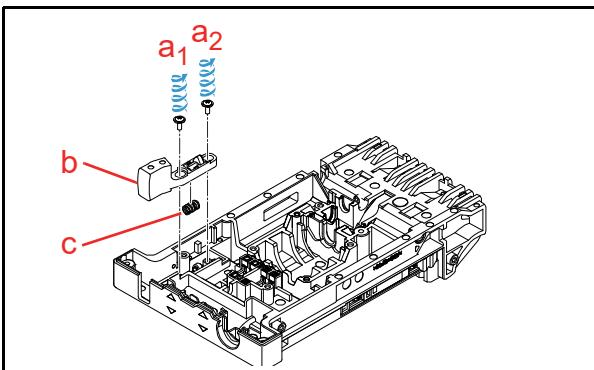

**Figure 4-38 TR Motor Harness Assy. Removal 2**
2. Remove the two (2) Screws (Figure 4-38 a1 & a2).
3. Remove the Detection Plate (Figure 4-38 b), the Motor Plate (Figure 4-38 c) and the Pinion Gear (Figure 4-38 d) from the TR Motor Harness Assy. (Figure 4-38 e).